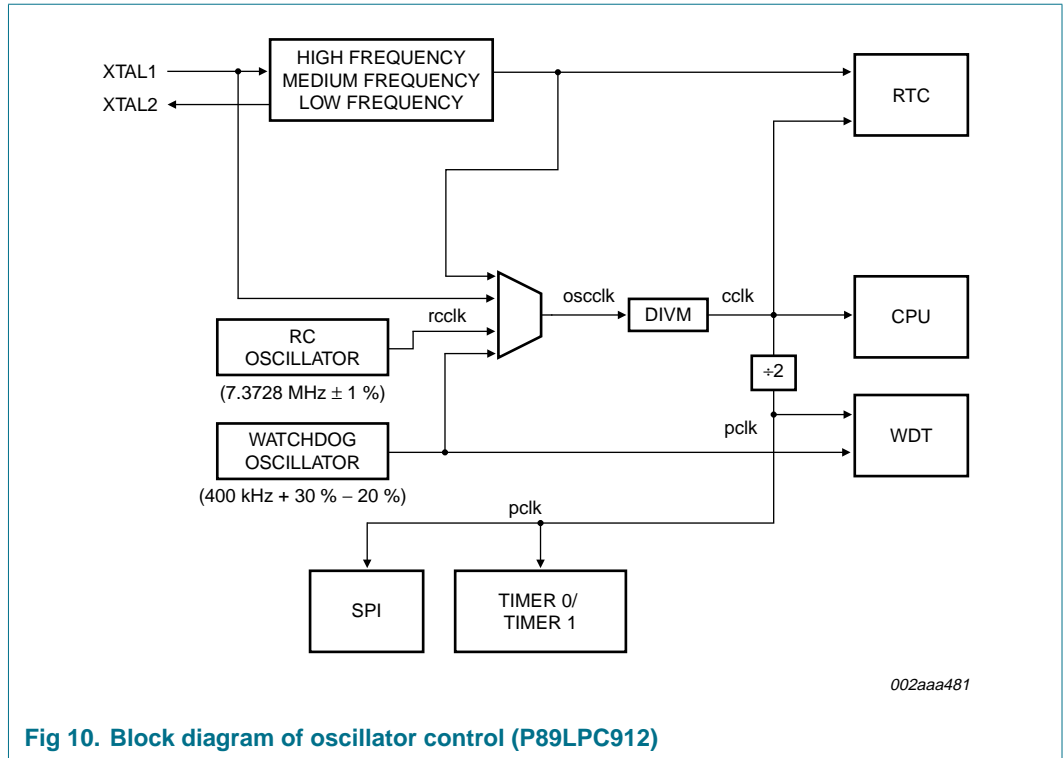

Fig 10. Block diagram of oscillator control (P89LPC912)
**OSCCLK** — Input to the DIVM clock divider. OSCCLK is selected from one of four clock sources (see Figure 10, 11, and 12) and can also be optionally divided to a slower frequency (see Section 8.8 “CCLK modification: DIVM register”).